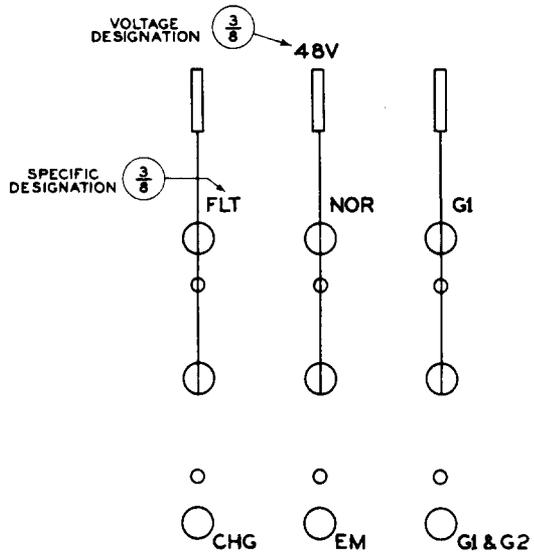
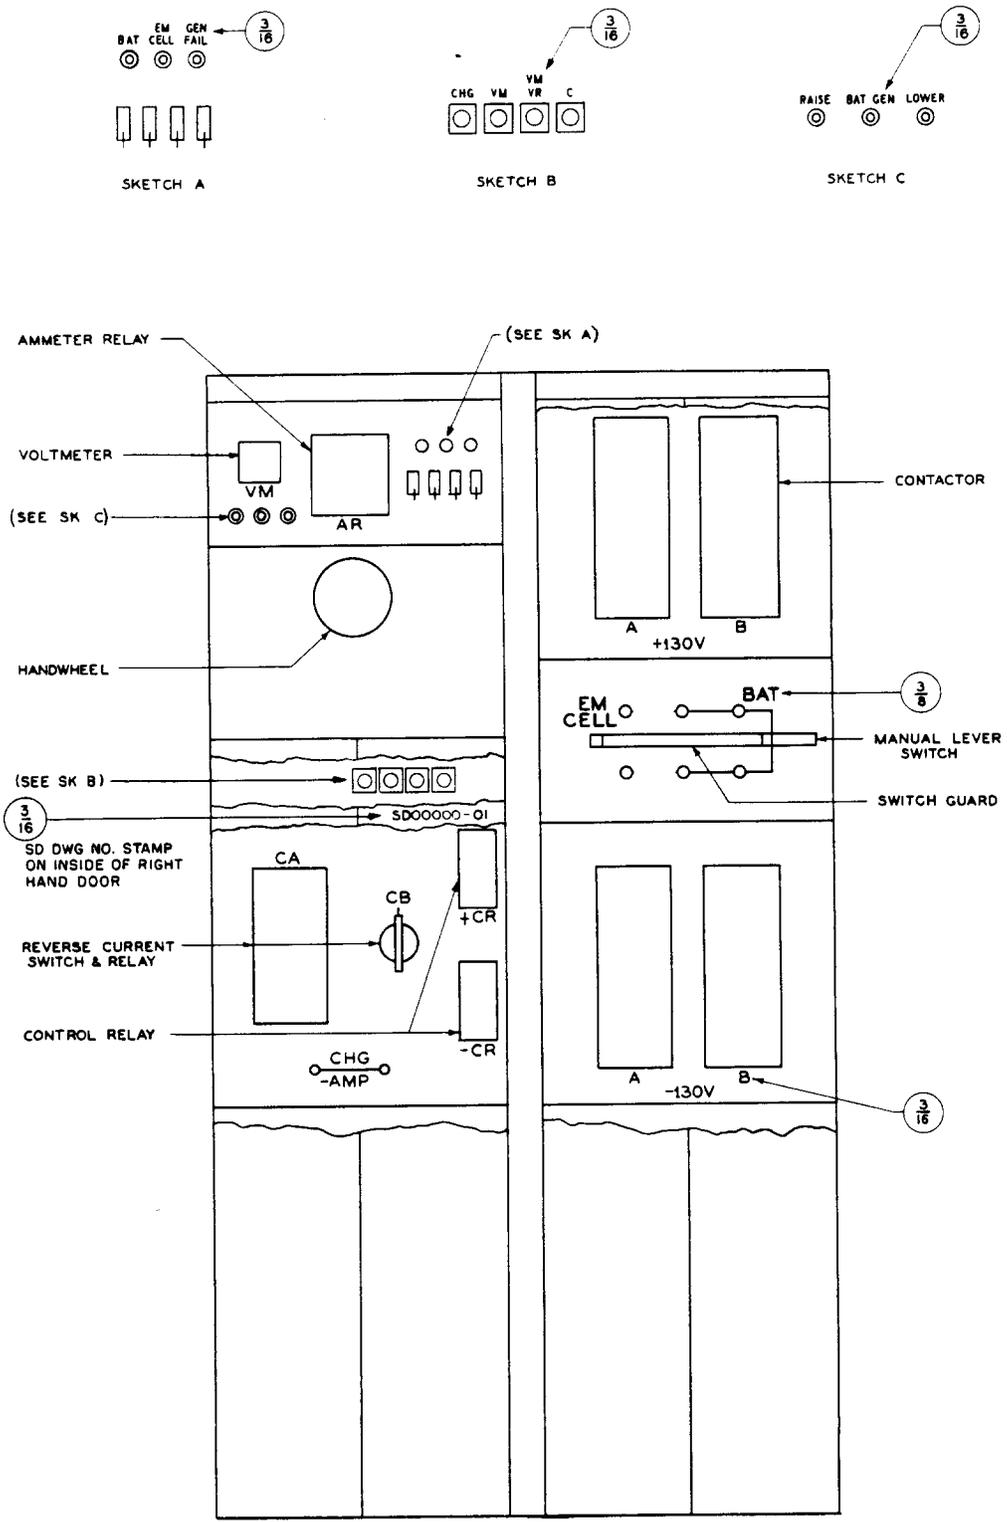

Fig. 48 - Knife Switches -
Fig. 51 - Typical Generator Control Switchboard - 2 Bays
2.67 For manually operated knife switches, see Fig. 48. For a horizontal switch, see Fig. 51.